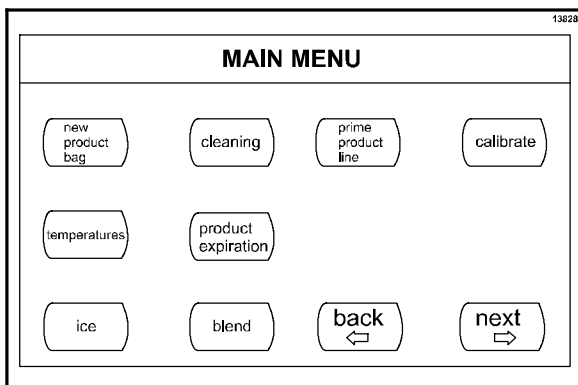

Figure 23
- Press the New Product Bag key. (See Figure 23.)